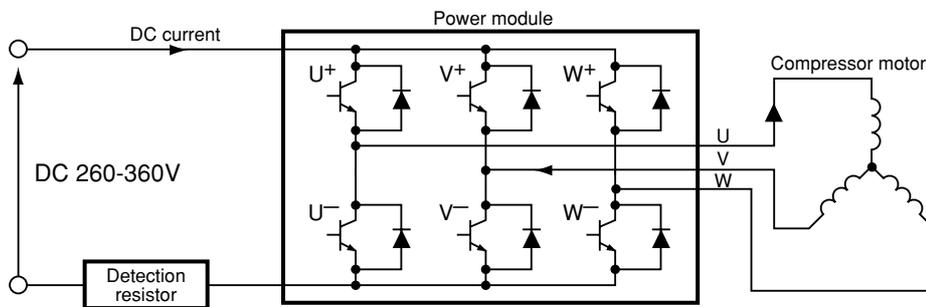

Fig. 8-9
(1) Turns on the power module's U⁺ and V⁻ transistors so the current flows to the motor windings as shown in Fig 8-9.